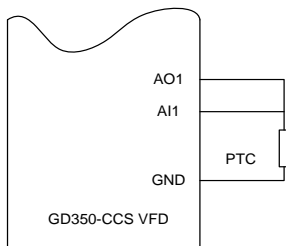

Figure 5-15 Wiring between PTC and analog terminals
- Step 1 Connect the PTC according to Figure 5-15.